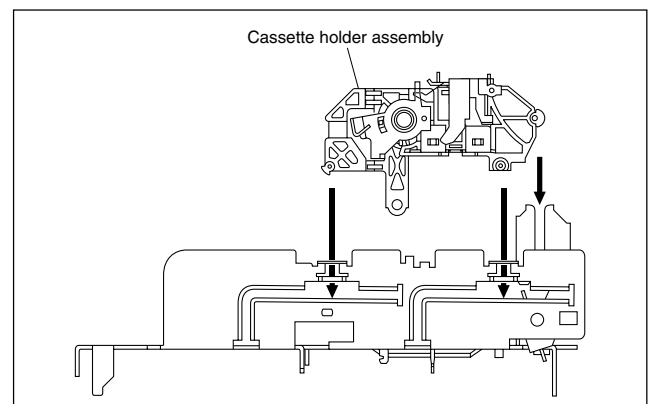
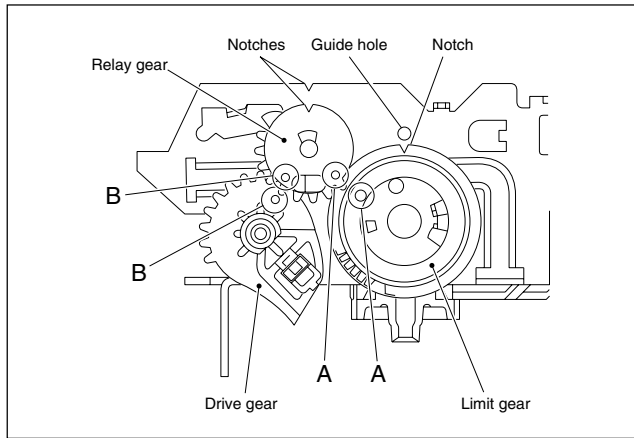

Fig. 2-2-3h
Fig. 2-2-3i
- (5) Drop the three legs on the left side of the cassette holder assembly into the groove at one time. (See Fig.2-2-3h.)
- (6) Slide the whole cassette holder assembly toward the front to bring it to the eject end position.
- (7) Install the limit gear so that the notch on the outer circumference of the limit gear is brought into alignment with the guide hole on the main deck. (See Fig.2-2-3i.)
- (8) Install so that the notch on the periphery of the relay gear is aligned with the notch of the main deck and that hole A of the relay gear is aligned with the hole B of the drive gear. (See Fig.2-2-3i.)
- (9) Install the door opener, opener guide, spring(A) and cassette housing bracket and fasten the two slit washers.